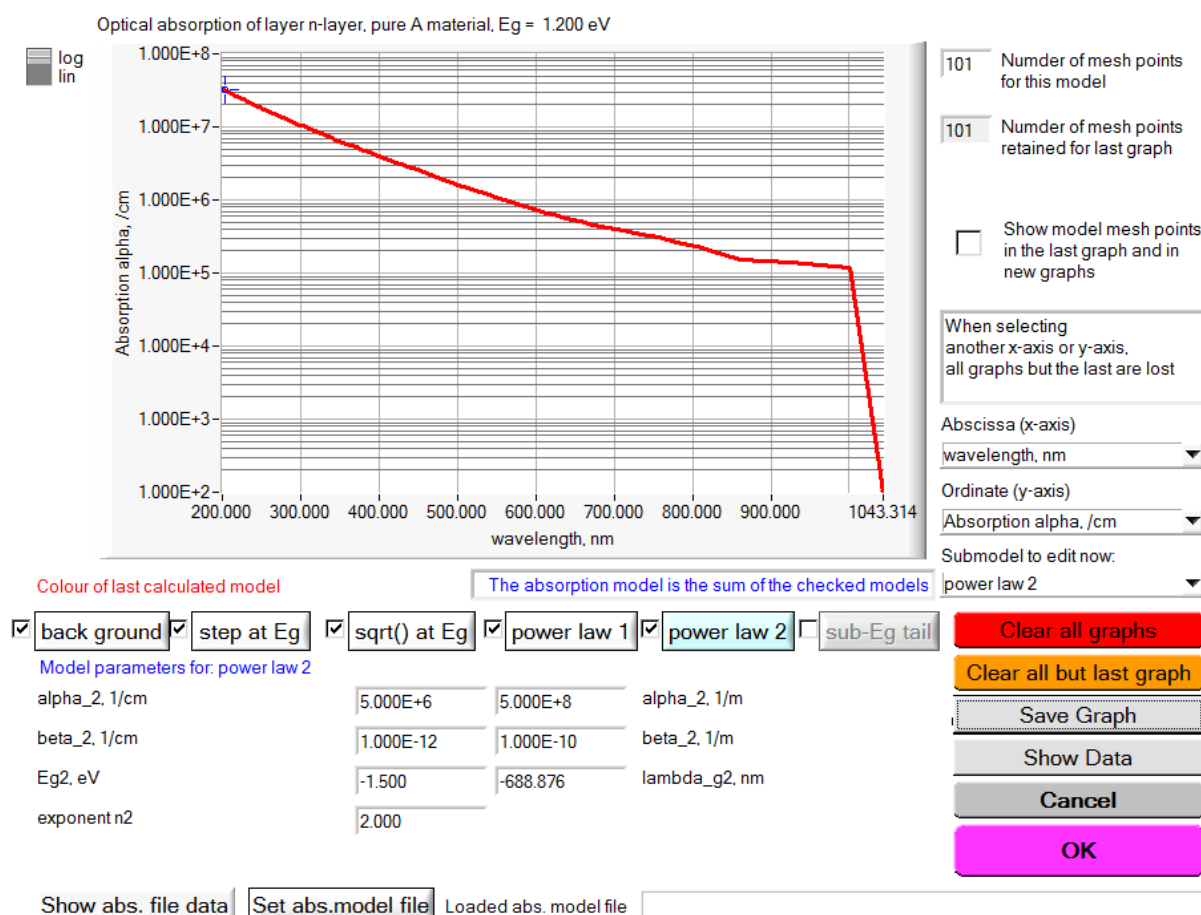

Figure 3.15 The Absorption Model Panel of SCAPS $\geq 3.3.07$.
The optical absorption block in the Layer Properties Panel has been changed in the new SCAPS $\geq 3.3.07$, see Figure 3.14. When the optical absorption of a material/layer is set to ‘from model’, the ‘set absorption model’ button is active; upon clicking, the Absorption Model Panel opens (Figure 3.15). This panel is operating much like the grading panel and the (spectrum or generation) model panel, that are perhaps familiar to the SCAPS user.
- The number of mesh points (λ values or $h\nu$ values) in the top right part of the panel of Figure 3.15, is only relevant for this panel. In calculations, SCAPS decides the λ -values at which to evaluate $\alpha(\lambda)$, the generation $G(x, \lambda), \dots$ based on the calculation settings ordered by the user: e.g. λ values in the spectrum file, λ values at which $QE(\lambda)$ are ordered,...